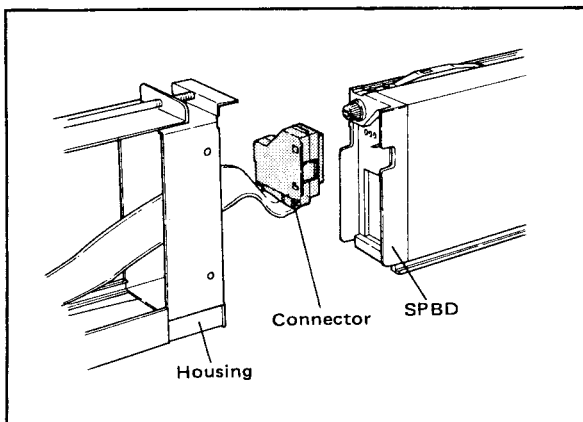

Figure 4-2.
- Check that the voltage of the built-in batteries is normal. For the battery check procedure, refer to Paragraph 4-2-2. If this instrument is used continuously for an extended period of time, connect the YEW-SERIES 80 housing power cord to the outlet and then, connect the housing connector to this unit. (See Figure 4-2).